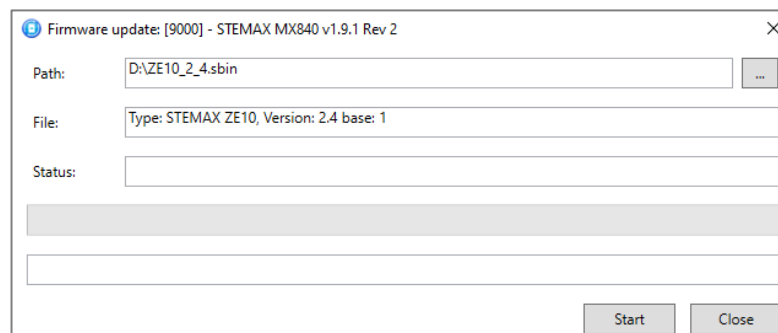

Figure 6.2. Firmware update window
3. In the window *Firmware update* (see figure 6.2), specify the path to the new firmware file for the zone expander on your PC (an **.sbin** or an **.sbinx** file) and click *Start*.